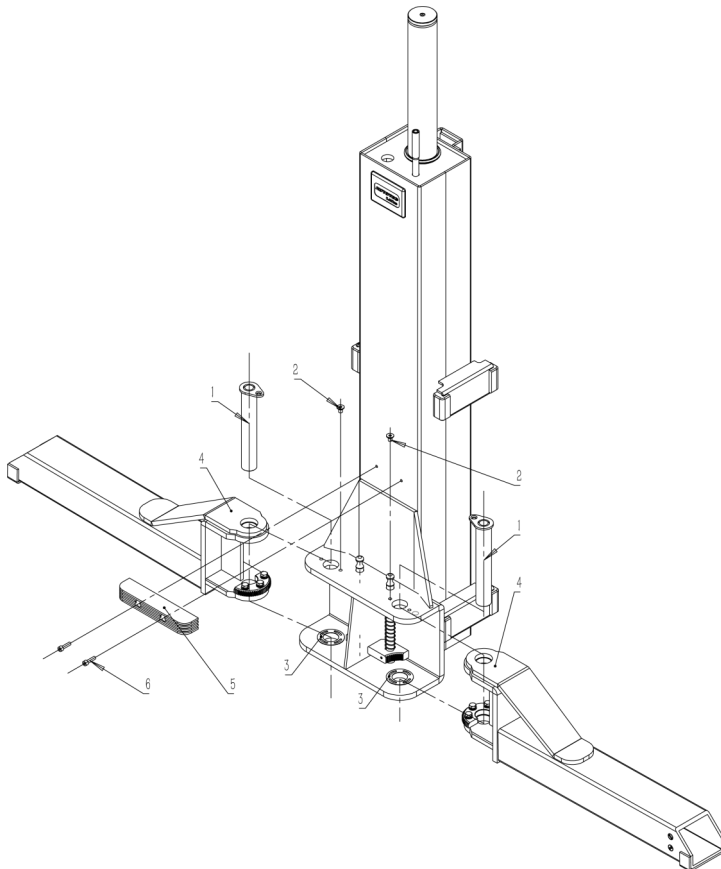

FIG 17
Step13: Install lifting arms. (See Fig 17)